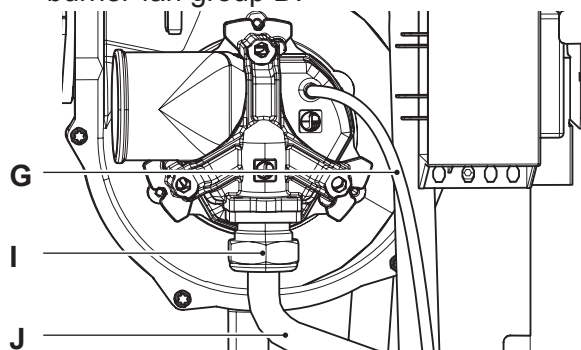

Figure 17.5 (right side of the fan)
- Disconnect the rubber pipe G (Fig. 17.5).
- Remove the fixing fork I and remove the gas pipe J (Fig. 17.5).